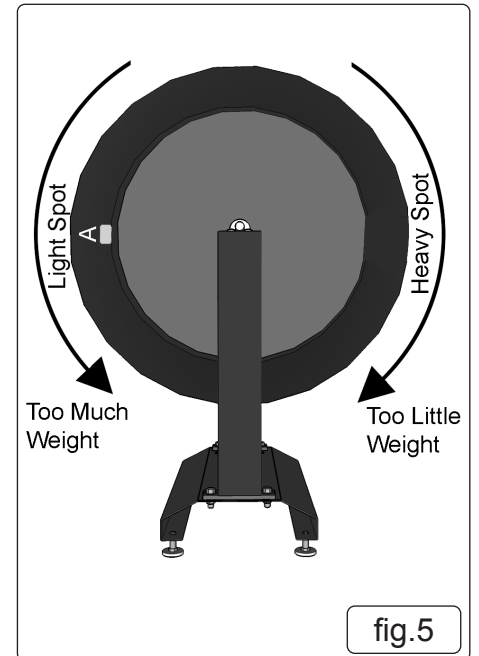

fig.5
- 5.7. If the light spot falls to the bottom, too much weight has been added to the wheel. If the heavy spot falls to the bottom, not enough weight has been added to the wheel. Add / Remove weight as required (fig.5).
- 5.8. Turn the light spot 90 degrees so it sits horizontally with the heavy spot and observe its movements, if again it falls to the bottom, too much weight has been added, if the heavy spot falls, too little weight has been added (fig.5).